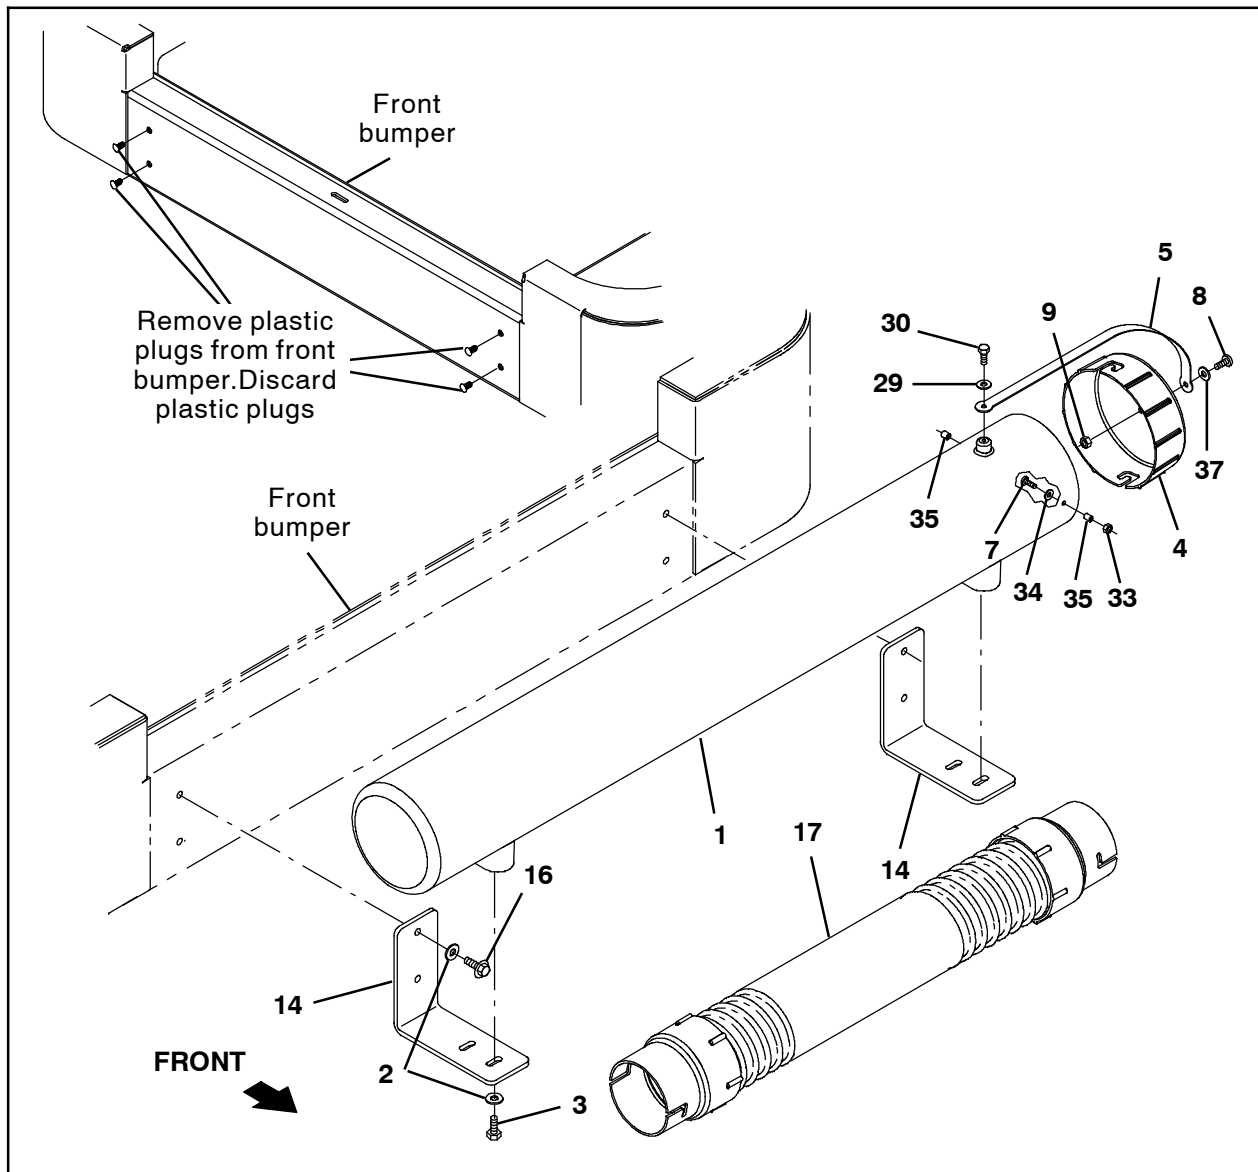

FIG. 4
17. Remove the plastic plugs from the front bumper. Discard the plugs. (Fig. 4)
18. Use two M8 hex screws (16) and two flat washers (2) to install each tube bracket (14) onto the front bumper. (Fig. 4)
19. Use one M5 pan screw (7), one flat washer (34), and one M5 lock hex nut (33) to install each sleeve (35) onto the hose tube (1). (Fig. 4)
20. Use one hex screw (30) and one flat washer (29) to install the cap strap (5) onto the hose tube (1). (Fig. 4)
21. Use one M6 pan screw (8), one flat washer (37), and one M6 lock hex nut (9) to install the cap strap (5) onto the hose enclosure cap (4). (Fig. 4)
22. Use two M8 hex screws (3) and two flat washers (2) to install the hose tube (1) onto each tube bracket (14). (Fig. 4)